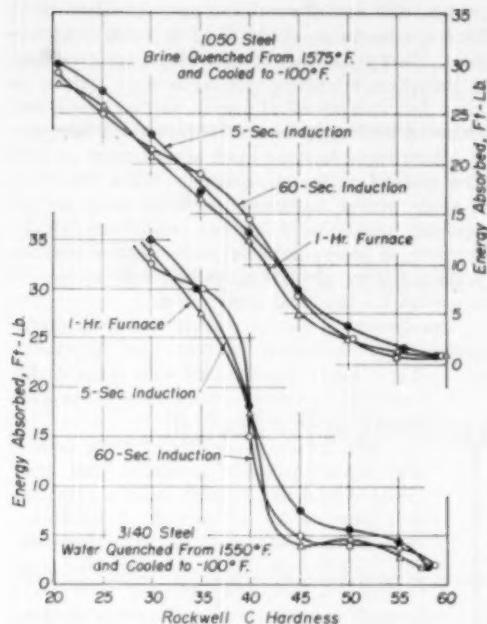

Fig. 4 — Impact Energy Versus Hardness for 1050 and 3140 Steels Tempered to Similar Hardness by Various Tempering Cycles
Figure 4 gives the results of room temperature impact tests on 1050 and 3140 steel. Within experimental error, room temperature impact values are a function of hardness regardless of the duration of tempering.
R. H. Greaves and J. J. A. Jones† have shown that temper brittleness is caused by a precipitating phase which has a maximum rate of reaction at about 950° F. It seemed possible that tempering cycles of 60 sec. and less might be short enough to avoid temper brittleness. The curves in Fig. 4 do not lead to a definite conclusion regarding this effect. It must be remembered that room temperature impact tests are not necessarily a satisfactory criterion for temper brittleness. Additional tests are planned to study temper brittleness by means of transition temperatures.